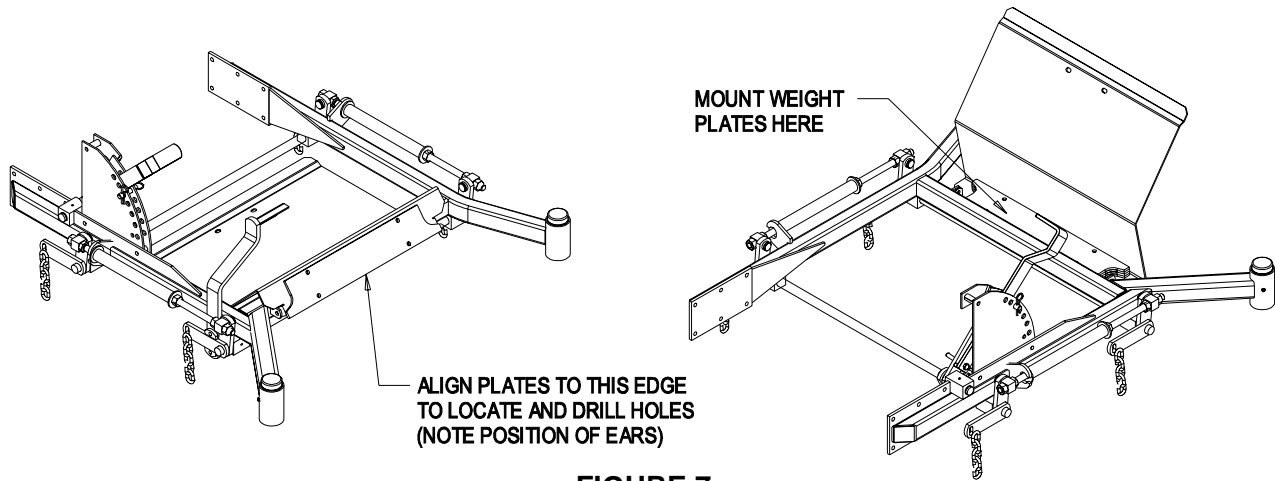

FIGURE 7
2. Locate the position of the mounting holes. On machines with serial numbers less than 320,000, clamping a weight plate to the front of the floor pan (See Figure 7) does this. The ears on the weight plate should be towards the bottom (upside down from the actual mounted position). Align the bottom edge of the weight plate with the bottom edge of the floor pan front panel. Center the weight plate side to side. On machines with serial numbers 320,000 or higher the hole positions are indicated by tool marks on the floor pan. Mark the position of all four holes using a center punch.